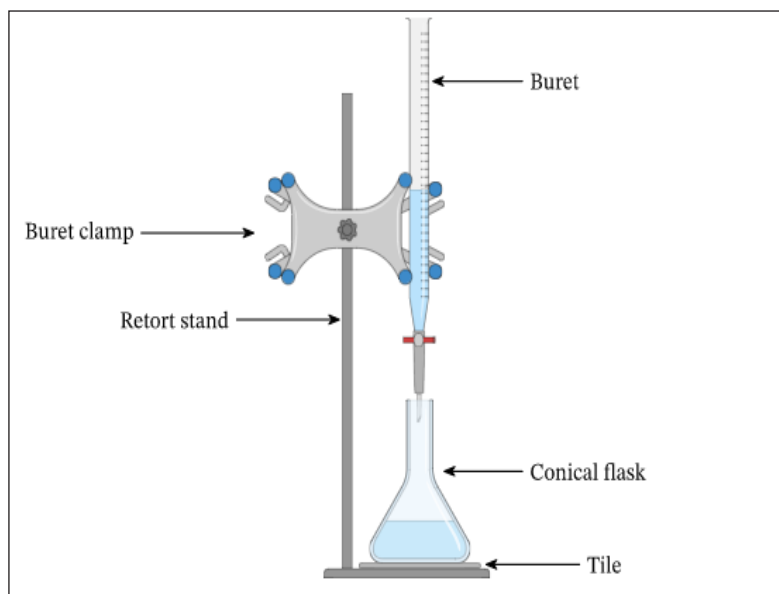

Figure 11.3: Determination of moles of water of crystallization of oxalic acid by titration
6. Add 1-2 drops of phenolphthalein indicator to the conical flask. Place the flask over the glazed tile as shown in figure 11.3. What do you observe?